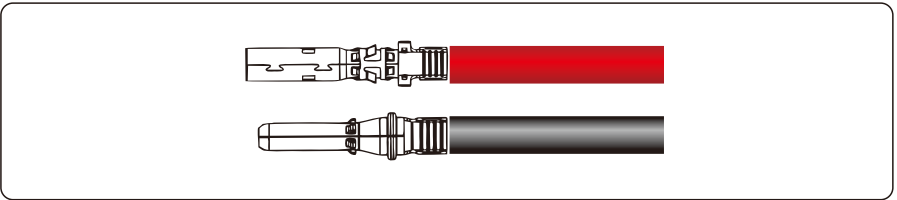

Figure 5.13 Crimping a metal connector
Step 2 Insert the exposed areas of the positive and negative power cables into the metal terminals of the positive and negative connectors respectively and crimp them using a crimping tool, as shown in Figure 5.13.